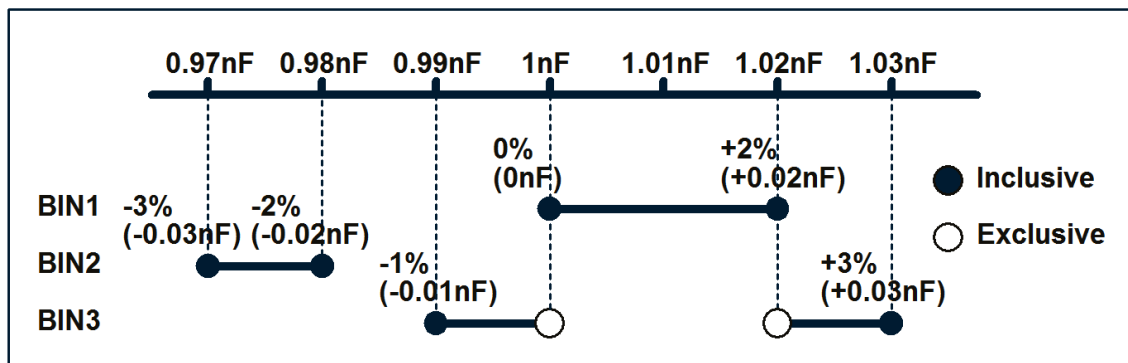

Figure 7-3 Example of gap between limit ranges
- Gaps between the limit ranges are allowed. Therefore, you can set up the limit ranges as shown in Figure 7-3.